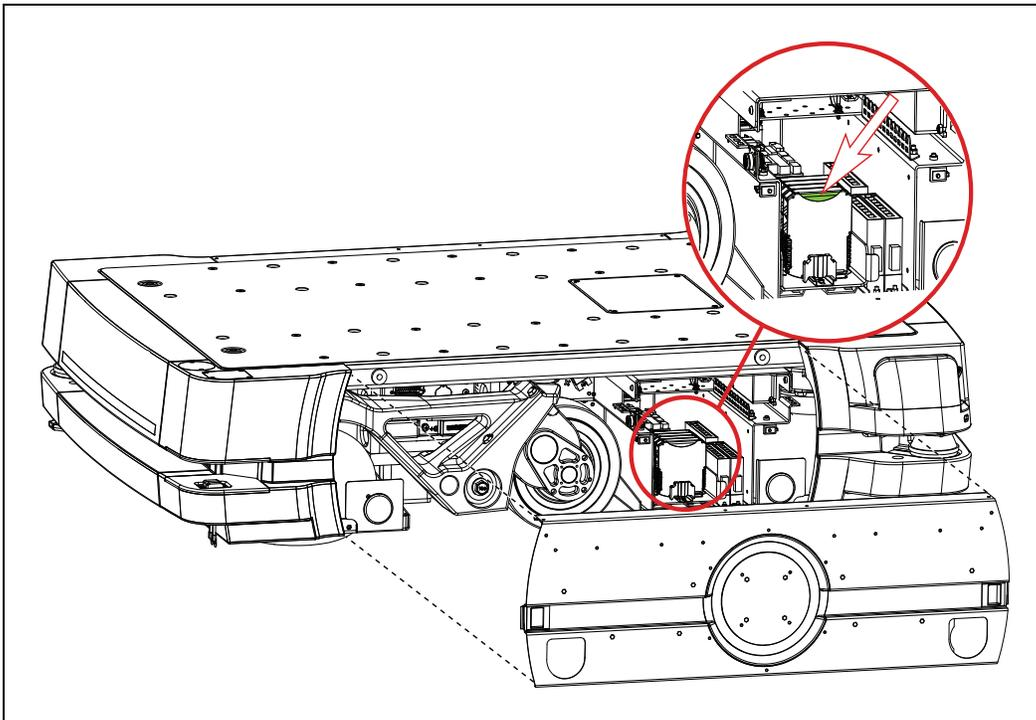
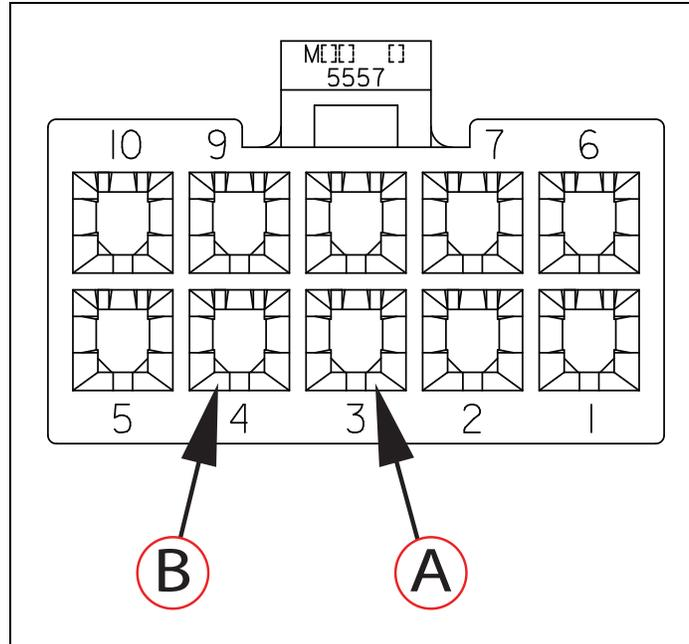

Figure 8-1. Location of the Module to be Probed
Figure 8-2. Module Connector Configuration - Viewed from the Rear, (A) Pin 3 (Negative), and (B) Pin 4 (Positive)
6. Each motor controller is equipped with a capacitor that stores energy. You must check and make sure that the voltage left is less than 7 V. Probe the appropriate connector pins on the module displayed in Figure 8-1. using a digital multimeter. Prob the back of the pin 4 (positive), and pin 3 (negative) as shown in Figure 8-2.